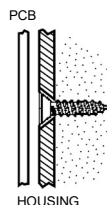

Figure B.4:
10. Use ISO 7050 (ST3.5 x 22) or similar countersunk screws so that the screw head will not touch the PCB – see Figure B.4.
- Mount the back cover to the wall using two screws and replace the PCB. Use ISO 7050 (ST3.5 x 22) or similar countersunk screws so that the screw head will not touch the PCB – see Figure B.4.